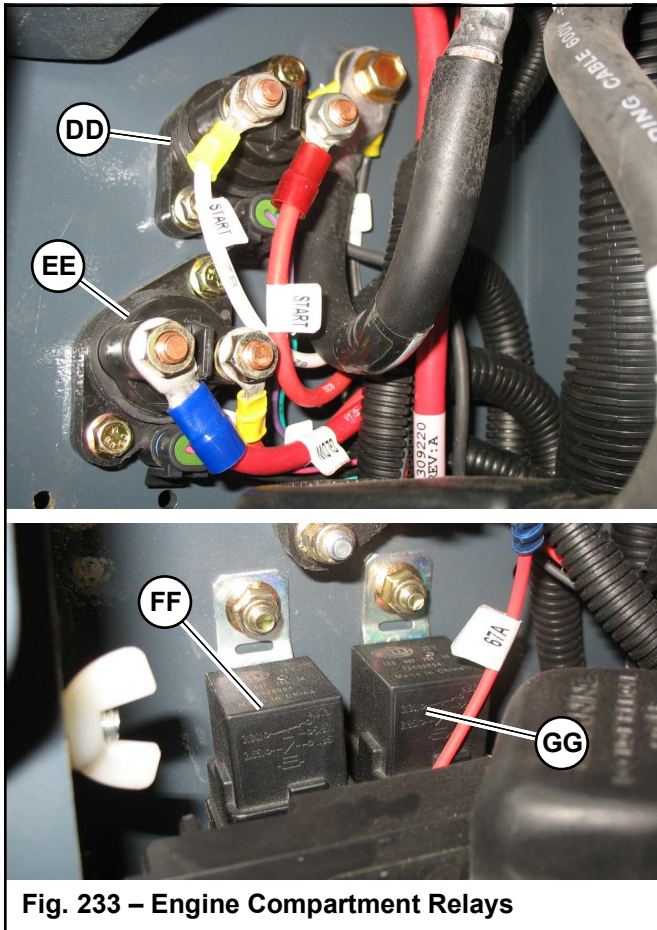

Fig. 233 – Engine Compartment Relays
**NOTE:** Caps on relays shown removed in Fig. 233.
Table 40: Engine Compartment Relays (Fig. 233)